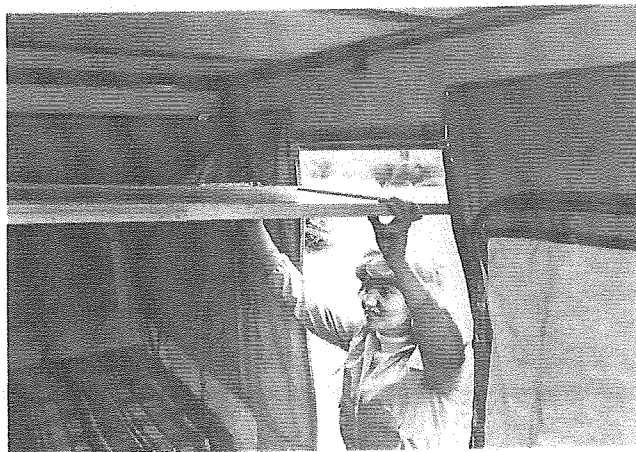

FIG. 22 - Screen Door Release
22. Standing at the door threshold, reach up and grasp the bottom of the screen door with both hands. Raise and push the door toward the far side of the trailer to release it from its retaining bracket. (See Fig. 22)
17. Step outside the trailer and grasp the bottom of the doorframe, lift up and push the top of the door toward the far side of the trailer. Allow the bottom of the door to swing back onto the retaining bracket mounted in the trailer top (See Fig. 22), and snap retaining straps. (See Fig. 21)